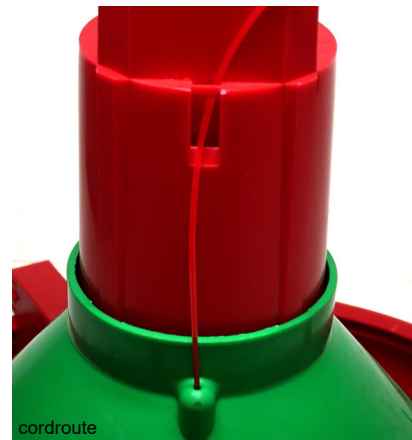

Figure 24. Assembling Support Cord to Feed Cone
4. Remove the Cable Clamp from the Support Cords. Route the Support Cords through the cable guides on the side of the Center Support. With the Support Cords above the feed tube, place the Cable Clamp on the Support Cords. See **Figure 24**.